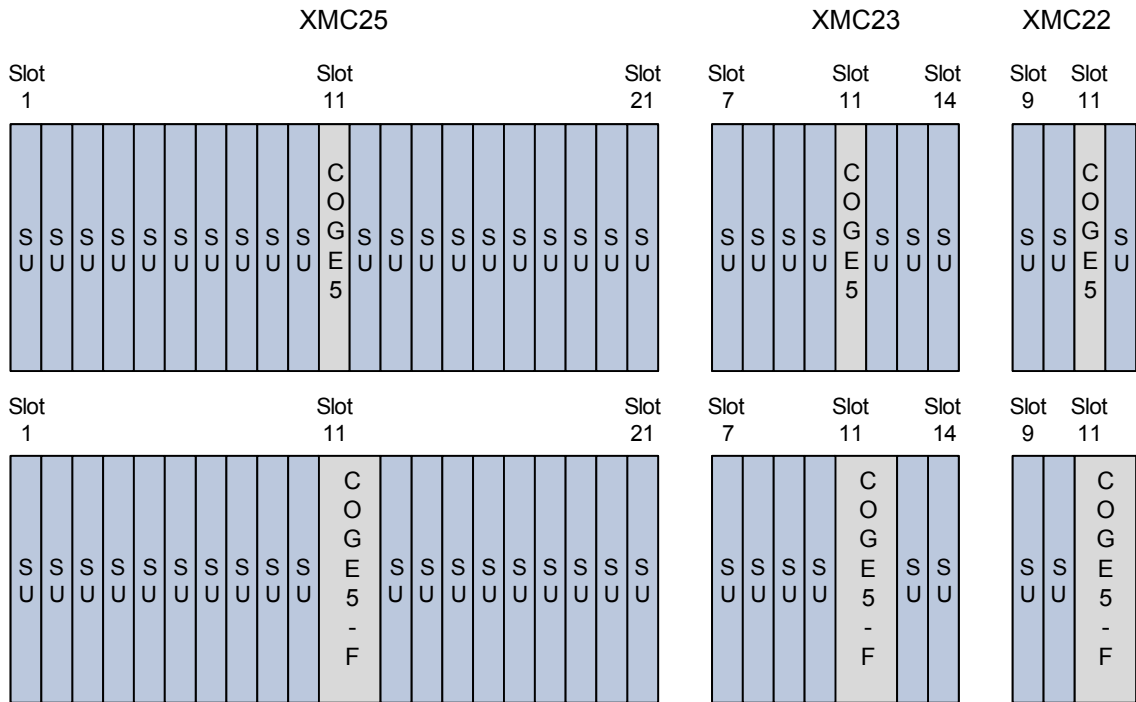

Figure 4: XMC20 subracks with core unit COGE5 in slot 11
For XMC20 systems with only one COGE5 unit, this unit must be placed in slot 11, as shown in Figure 4 "XMC20 subracks with core unit COGE5 in slot 11". All other slots can be equipped with service units (SU).